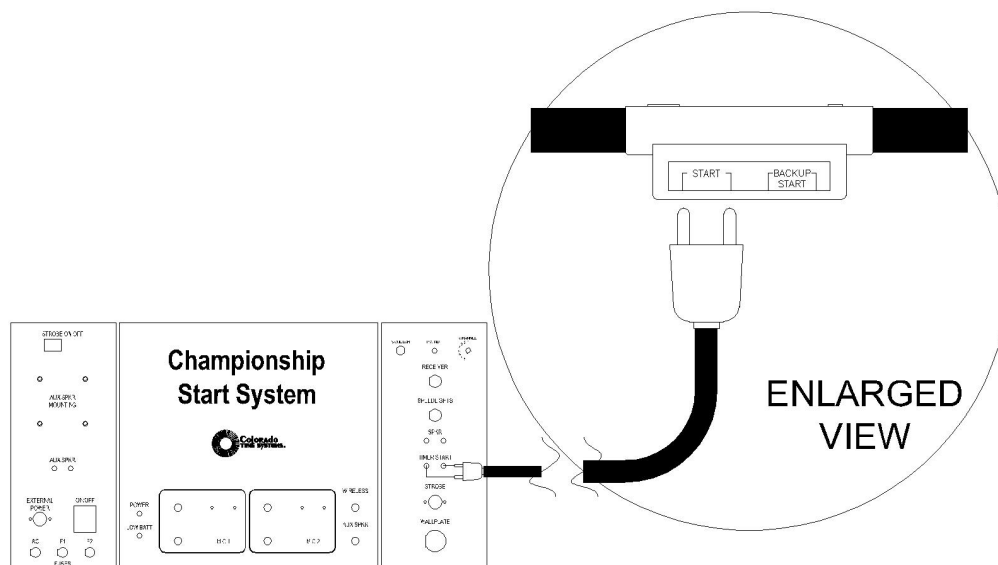

Figure 2-A Start System Connections
- 1) To set up a loudspeaker start system, place the start system a safe distance from the pool and plug in the microphone. Route the loudspeaker cable harness along the edge of the pool and connect the speaker(s) to the harness, as shown in Figure 2-G
- 2) Connect the cable from the start system to the start connection on the primary cable harness as shown in Figure 2-A, or to the start connector on the wall-plate or your in-deck wiring system.